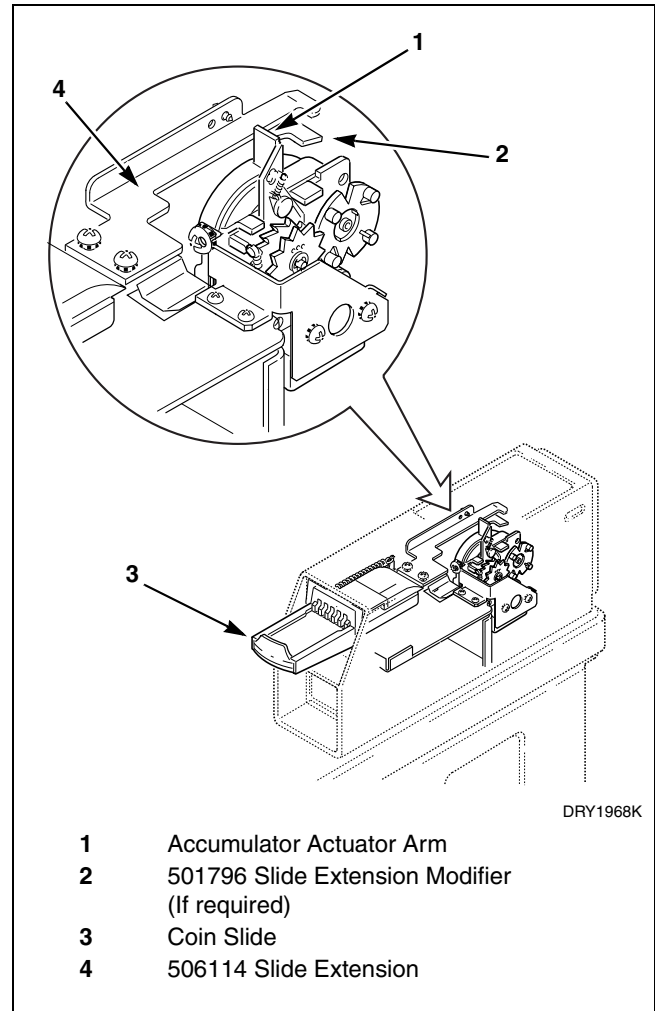

Figure 5
4. Reinstall coin slide in dryer meter case. Refer to *Figure 5*.
When slide is pushed all the way in (accumulator arm will be rotated to the back) and slide is retracted, the accumulator actuator arm should remain back until the slide extension is moved forward and again contacts the actuator arm to return the arm to the starting forward position. Refer to *Figure 5*.